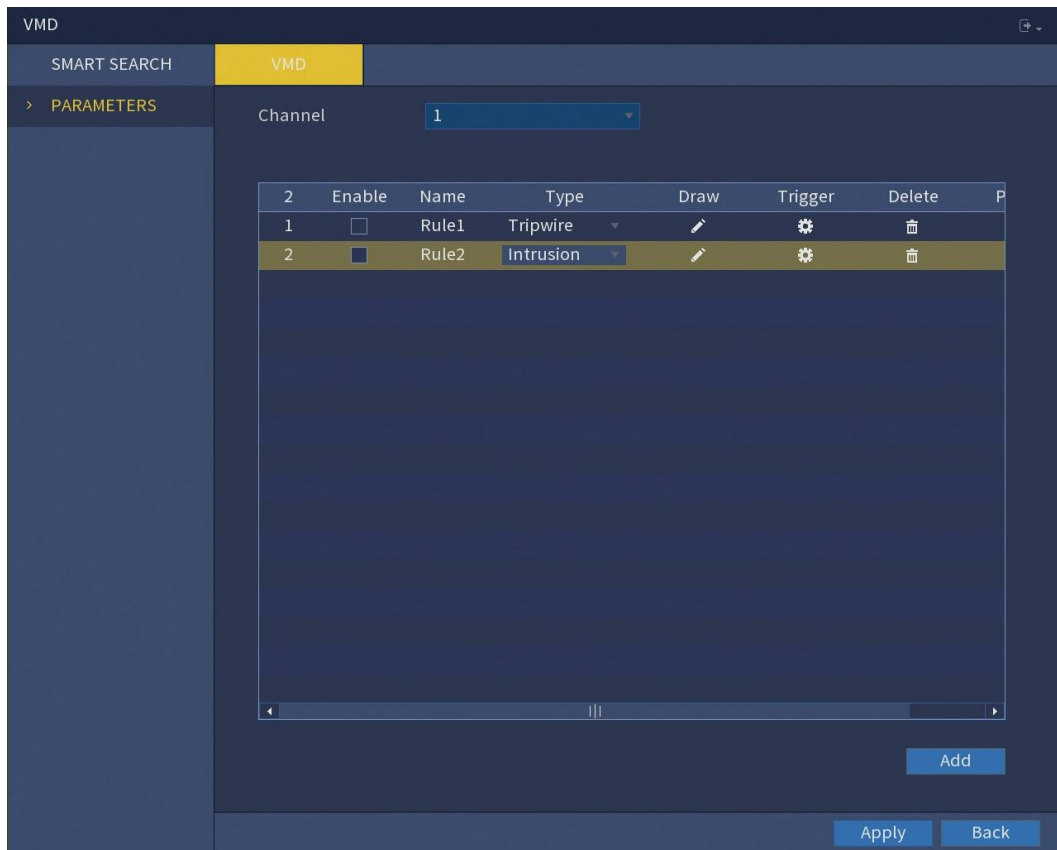

Figure 5-97
1. On the rule line that you added, in the **Type** list, select **Intrusion**. See Figure 5-97.